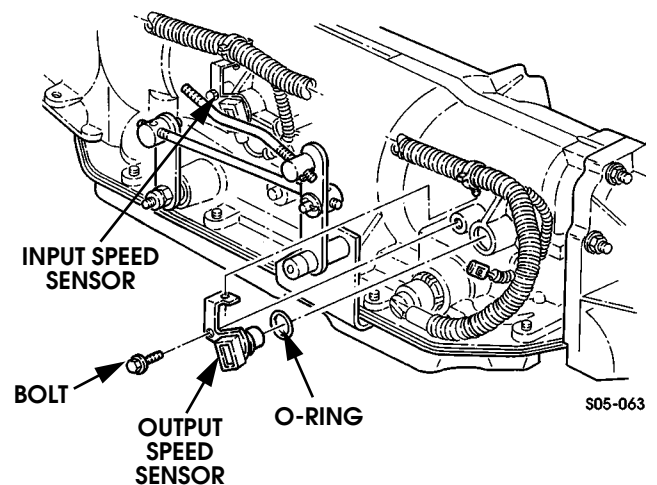

Figure 5-67: Speed Sensor Removal/Installation
5. Remove O-ring seal from sensor (Figure 5-67).